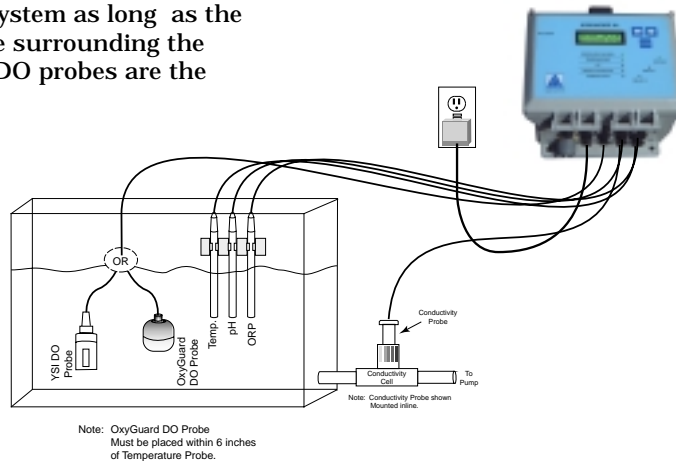

Figure 2.2 • In-Filter Location Using Probe Mounts
- In-Filter Location Using Probe Mounts (Figure 2.2).
The most common place for probe location is in the filter. Installing probes in a filter or sump requires that the probes be secured using probe mounts that attach to the back of the filter so the probes are only half-immersed in the water, (See Figure 2.2.) When placing your probes, be sure that there is adequate water flow over the probe tips at all times. The pH and ORP probes must be placed within 6 inches of the Temperature Probe.